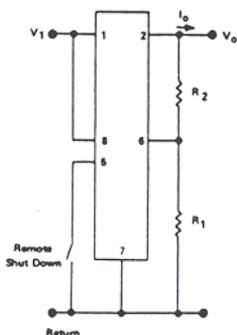

FIGURE 2
Hook up per Fig. 2 and 3, but  $V_1$  and  $V_0$  are negative voltage
- Reference diode is  $6.2 \pm .3$  volts, and the  $V_{BE}$  of the feedback transistor is  $0.6 \pm .1$  volt, giving  $V_{6-7} = 6.4$  to  $7.2$  volts, temperature compensated. External divider  $R_1$  and  $R_2$  in Figs. 2, 3 and 13 determines the output voltage  $V_0$ .